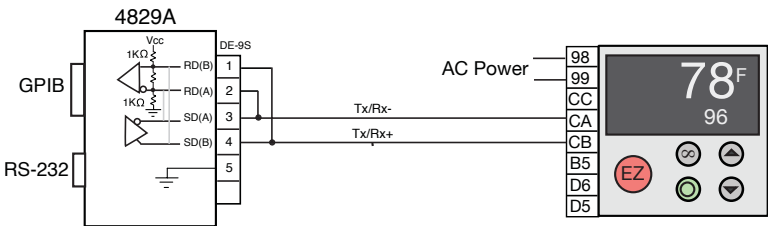

Figure 2-16 4829A connection to an EZ Zone Controller
Figure 16 shows an 4829A driving a single Watlow EZ Zone Controller with it RS-485 output. The 4829A has an internal termination network with a 220 ohm load resistor so it does not need external resistors. If the internal W4 and W5 jumpers are installed (the gray links in Figure 2-16), then no external jumpers are required and the EXZ Zone Controller can be connected to either (A)-(B) signal pair.